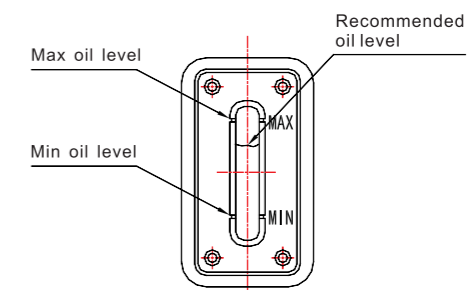

Fig. 6
1) The oil level shall be always kept between position MAX and MIN of oil sight glass during operation (refer to Fig. 6). Add oil when the oil level is lower than position MIN and discharge oil by removing the oil drain plug (refer to Fig. 1) when the oil level is above position MAX.